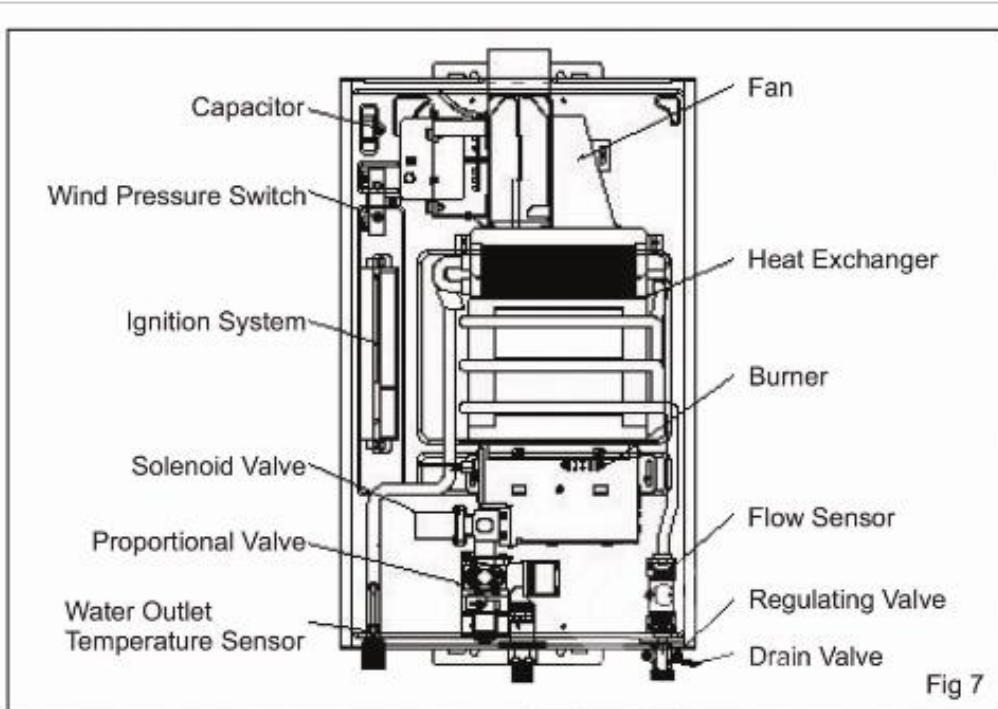

Fig 7
- See Fig.4 and 1 for water and gas connection details. See Fig.7 for internal items list.